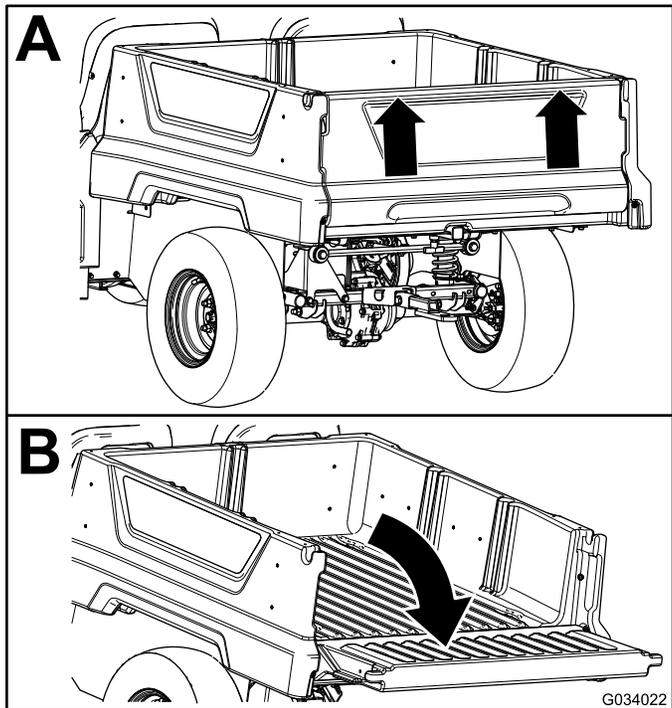

Figure 15
2. Using both hands, raise the tailgate using the ridge near the top of the tailgate (Figure 15).
3. Lower the tailgate until it is flush with the bottom of the cargo bed (Figure 15).